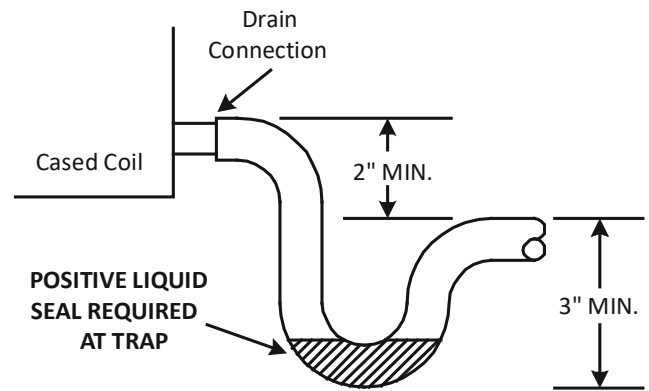

Figure 13
- Insulate drain lines located inside the building or above a finished living space to prevent sweating. The installation must include a "P" style trap that is located as close as is practical to the evaporator coil. See Figure 13 for details of a typical condensate line "P" trap.
- **NOTE:** Units operating in high static pressure applications may require a deeper field constructed "P" style trap than is shown in Figure 13 to allow proper drainage and prevent condensate overflow.